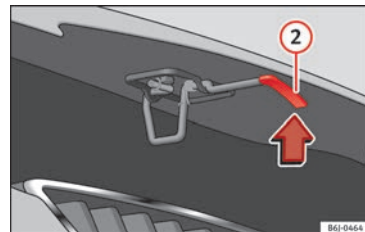

Fig. 6 Cam under the bonnet
- Lifting up the bonnet: press the release catch under the bonnet upwards » **Fig. 6** ②. The arrester hook under the bonnet is released.